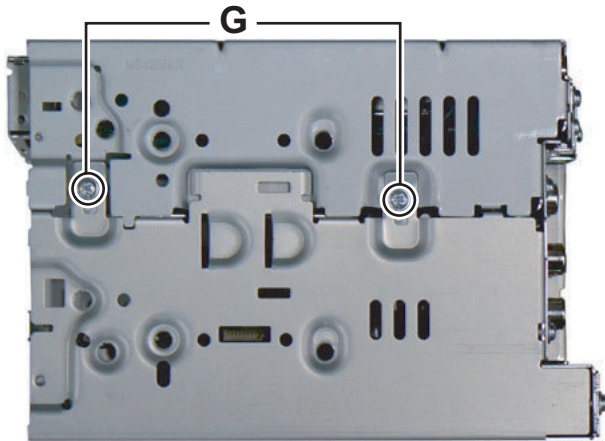

Fig.6
(2) Remove the two screws **G** attaching the Top chassis. (See Fig.6)